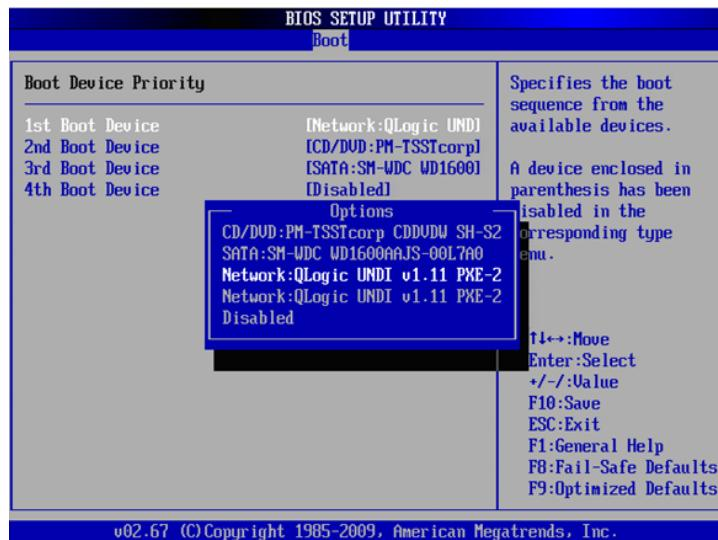

Figure 6-39. Boot Order in BIOS
1. Set up client servers BIOS boot order to select 8100 Series NIC as the first boot device in the Boot order/Boot Device priority. The two QLogic UNDI v1.11 PXE-2 entries are for a dual-port QLogic 8100 Series Adapter (Figure 6-39).